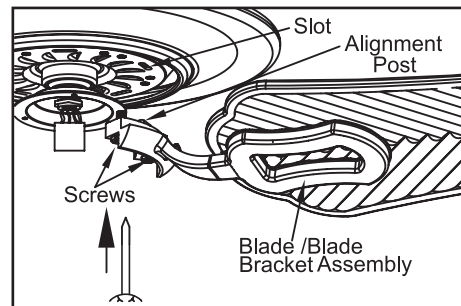

Figure 14
3. Fasten the blade assembly to the motor by inserting the alignment post into the slot on the bottom of the motor and tightening the blade bracket screws. Please note that the blade bracket screws are pre-attached into the blade bracket (Figure 14).